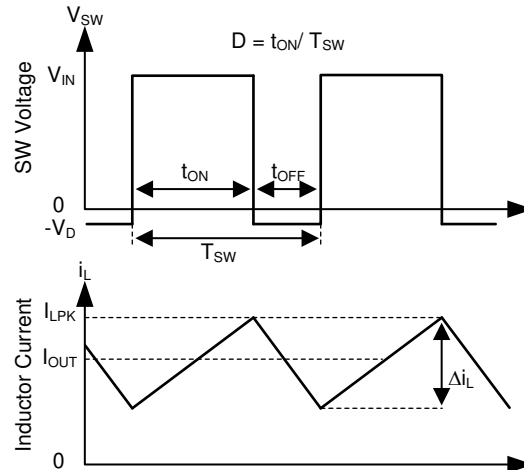

图 7-1. SW Node and Inductor Current Waveforms in Continuous Conduction Mode (CCM)
The following operating description of the LMR23625 refers to # 7.2 and to the waveforms in 图 7-1. The LMR23625 device is a step-down synchronous buck regulator with integrated high-side (HS) and low-side (LS) switches (synchronous rectifier). The device supplies a regulated output voltage by turning on the HS and LS